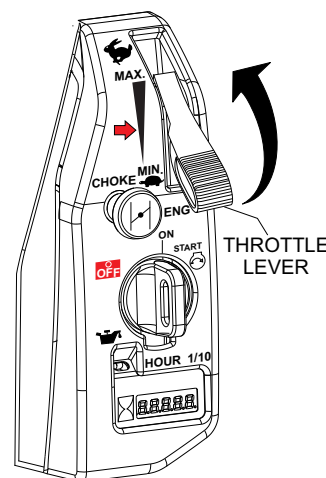

Figure 15. Throttle Lever
5. Move the throttle lever halfway between the **MIN.** and **MAX.** position (Figure 15) for starting.
- Place the throttle lever (Figure 15) in the **MAX.** position.
4. Place the throttle lever (Figure 15) in the slow position. Idle the engine 3–5 minutes for gradual cooling.